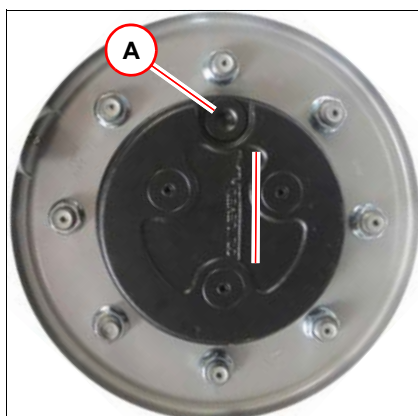

Fig. 140
8. Bring the plug **A** into the position as shown above *Fig. 140* (plug **A** must be at the top).